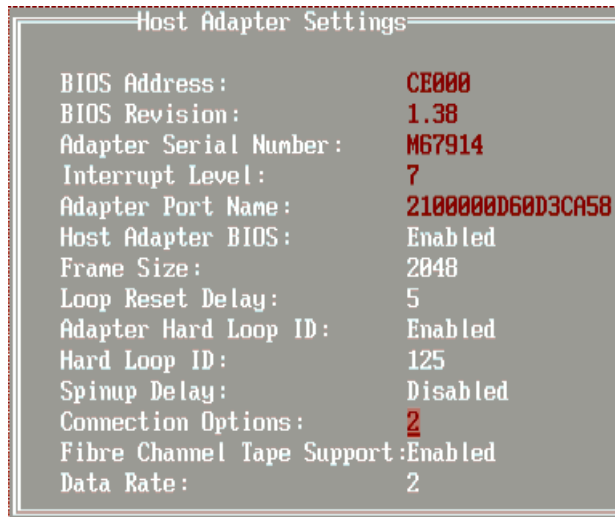

Figure 20-27 Select Enabled for Host Adapter Bios
- d. In the Host Adapter Settings panel, select Host Adapter BIOS and press Enter to set the value to Enabled as shown in Figure 20-27 on page 611. While on this panel, you can make a note of the Adapter Port Name. It will be necessary to do the zoning configuration and do the mapping in Storage Manager.